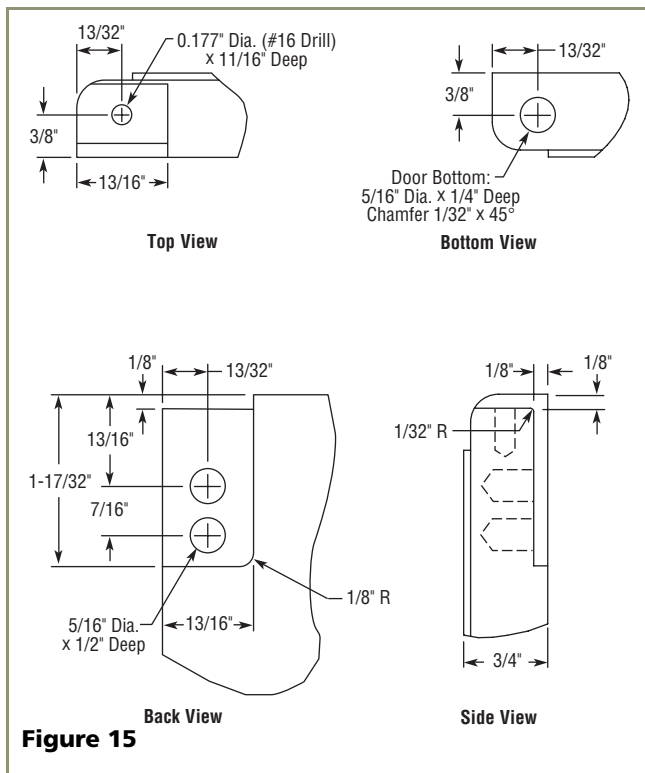

Figure 15
3. Create a relief for pivot plate by cutting notch in top corner and coinciding back corner of overlay frame. Refer to **Figure 15** for exact specifications.
4. Drill holes for pivot plate mounts (see **Figure 15**, Back View).
5. Drill hole for upper door hinge (top of frame) (see **Figure 15**, Top View).
6. Drill hole for lower door hinge (see **Figure 15**, Bottom View).